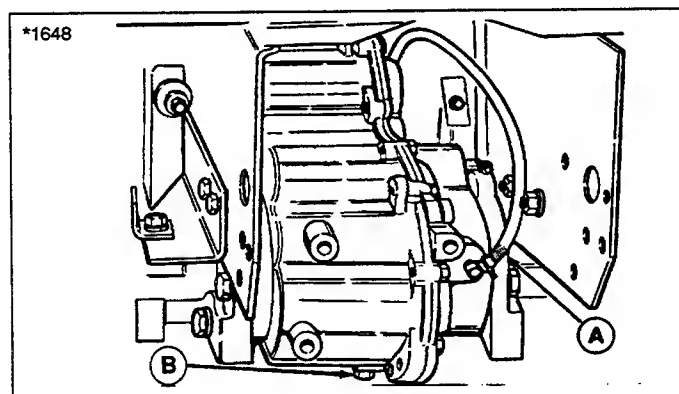

Figure 19. Transmission Fluid Check
Check with the engine off. See figure 19. fluid should be visible in tube at rear of tractor with rear access panel removed. Fluid should not extend more than 1" above fitting.
1. Drain hydrostatic system by removing drain plug (B, figure 19). Drain fluid into a suitable container.
4. Run tractor for several minutes until transmission is warm and check fluid level in tube (A, figure 19).